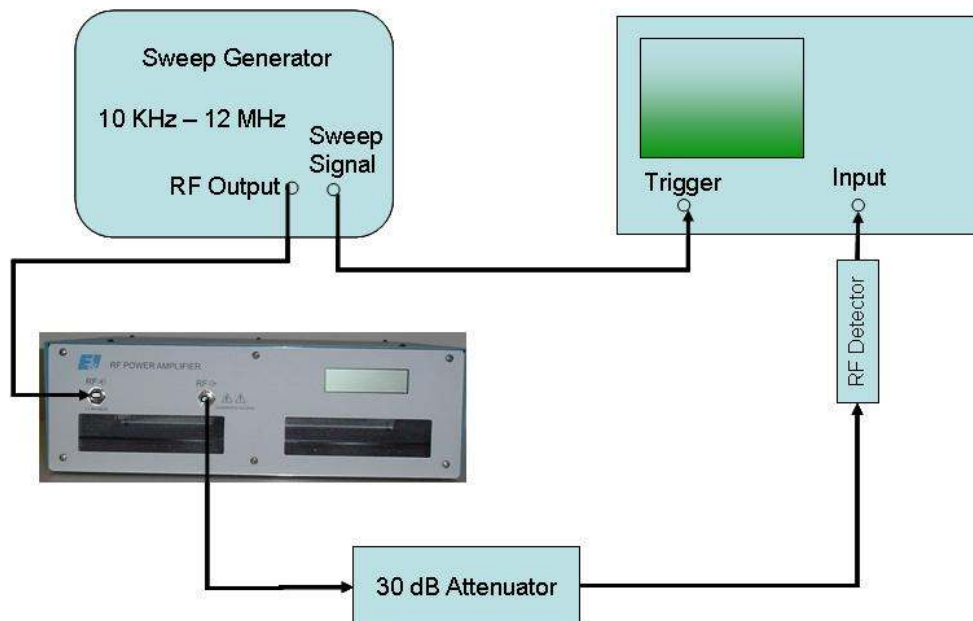

Figure 4-1. Gain Measurement
##### 2. Connect the equipment as shown in Figure 4-1, then proceed as follows:
- g) Reconnect the 2100L into the test set-up of Figure 4-1.